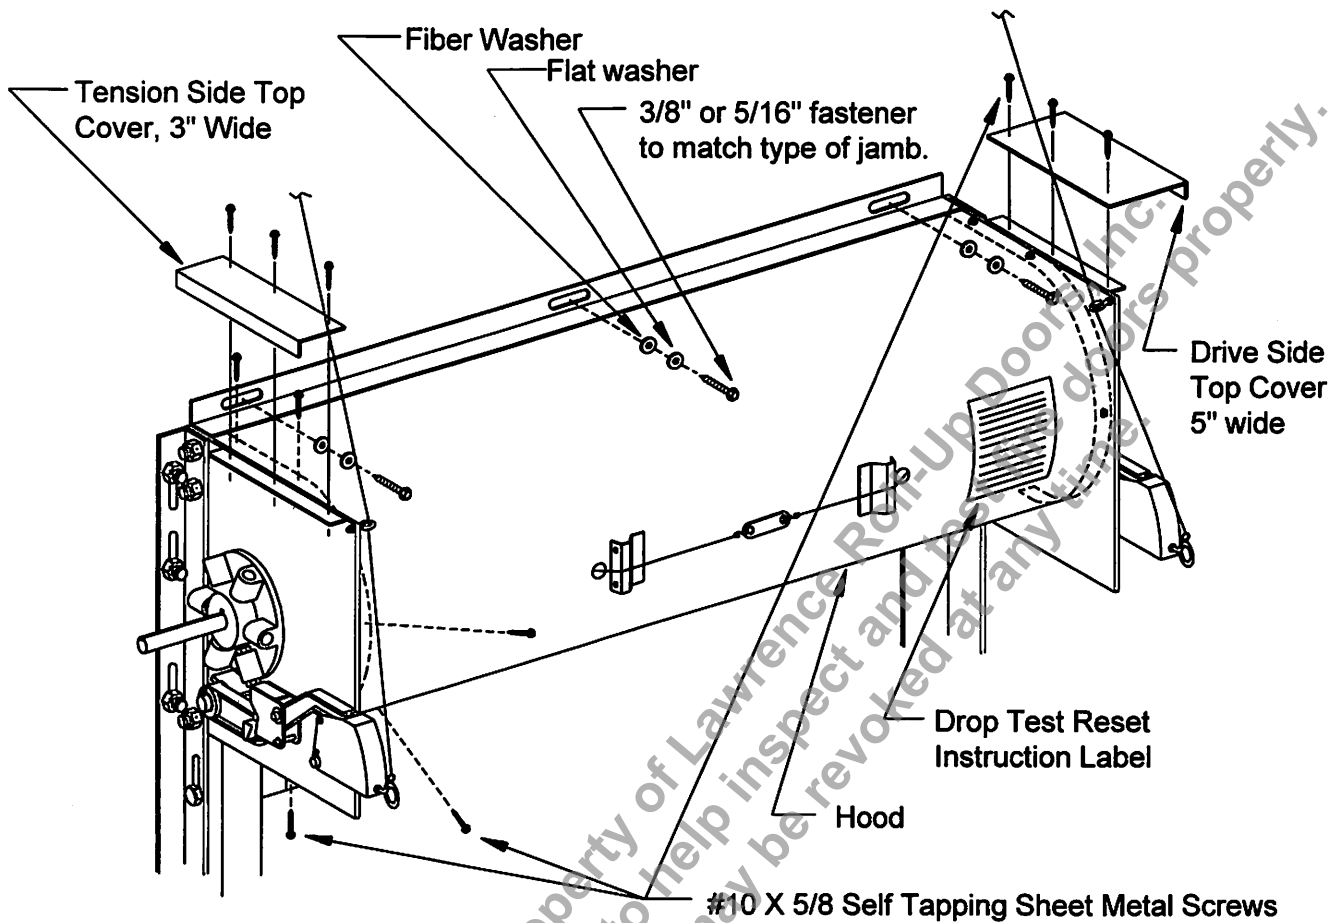

FIGURE 13
Step 14. Install the hood of the door as shown in figure 13.
Step 16. Attach end covers to both ends of door as shown in figure 13